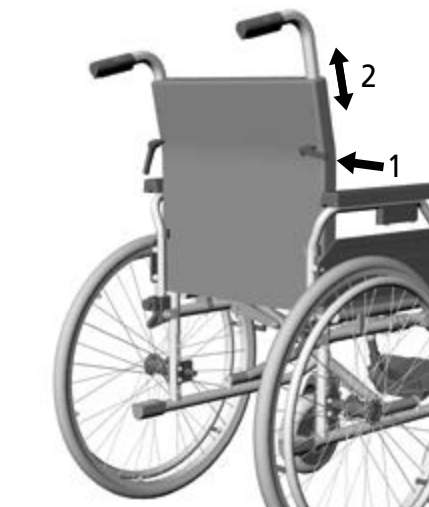

Fig.23
1. First, loosen the clamping lever screw on the back of the backrest. (1, Fig. 23).
2. Now you can pull the tube of the push handle up into the desired position. (2, Fig. 23). Screw the clamping lever screw back into one of the three bores provided. Ensure that the clamp lever screws are tight.